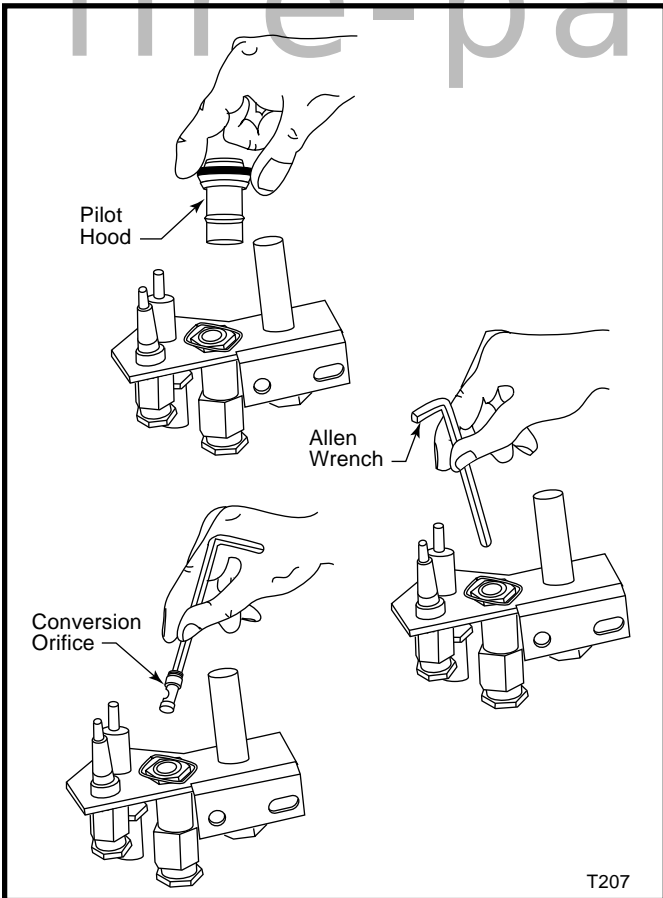

Fig. 43 Remove pilot hood and orifice. Insert conversion orifice.
1. The pilot hood is held in place by spring pressure. Remove the hood by pulling it directly up from the pilot bracket. (Fig. 43)
2. Insert a 3/32" (4mm) Allen wrench into the hexagonal keyway of the injector (Fig. 43) and rotate it counterclockwise until it is free of the injector journal. (Fig. 43)
4. Insert the Allen wrench into the end of the injector. Insert the injector into injector journal, and rotate the injector clockwise until a torque of 9 in/lbs. is achieved. Replace the pilot hood by aligning the tab on the base of the hood with the slot in the side of the pilot journal. Push the hood down, directly onto the pilot bracket. (Fig. 43) The hood must sit squarely on the bracket for proper operation. Check to insure the hood is properly seated onto the pilot bracket.